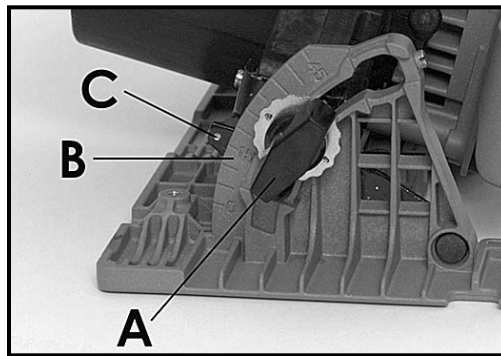

Fig. 5
2. Loosen the bevel adjusting knob (A) Fig. 5.
3. Tilt saw base until desired graduation line on the bevel segment (B) Fig. 5, lines up with indicating mark (C) Fig. 5, on bracket.
3. Loosen bevel adjustment knob (A) Fig. 5, and position base for 90° cut being sure that the bevel stop sleeve is against the 90° stop screw.
3. Loosen bevel adjustment knob (A) Fig. 5, and position base for 45° cut being sure that the bevel stop sleeve is against the 45° stop screw.